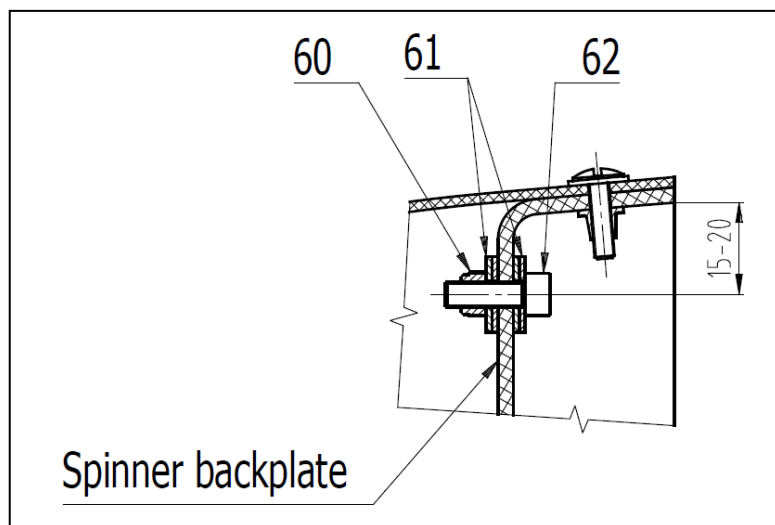

Fig. C-21 Balance weight installation
- 4) Mark center position of modeling clay and remove it from spinner backplate. Weigh removed modeling clay with 1g precision. Prepare assembly consisting of screw (62), washers (61), and self-locking nut (60). Select dimensions and number of washers so that the weight of the assembly matches with weight of removed modeling clay. Choose fasteners type according to Tab. C-6. Use maximally ten washers at one screw. Maximum weight of 25g at single location is allowed.
- 5) Drill appropriate hole for selected screw at marked location on backplate wall. Attach components of balancing assembly to both sides of backplate wall (Fig. C-21).